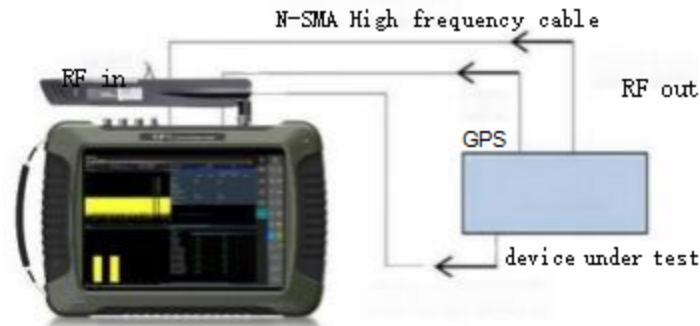

Figure 5.34 Schematic diagram of the tested equipment and RMT series spectrometer
- Step 1. Connect the signal output port of the device under test to the RF input port of the RMT series spectrometer, as shown in Figure 5.34. It is recommended to connect the reference signal for optimizing the test index. Referring to section 3.2.2.